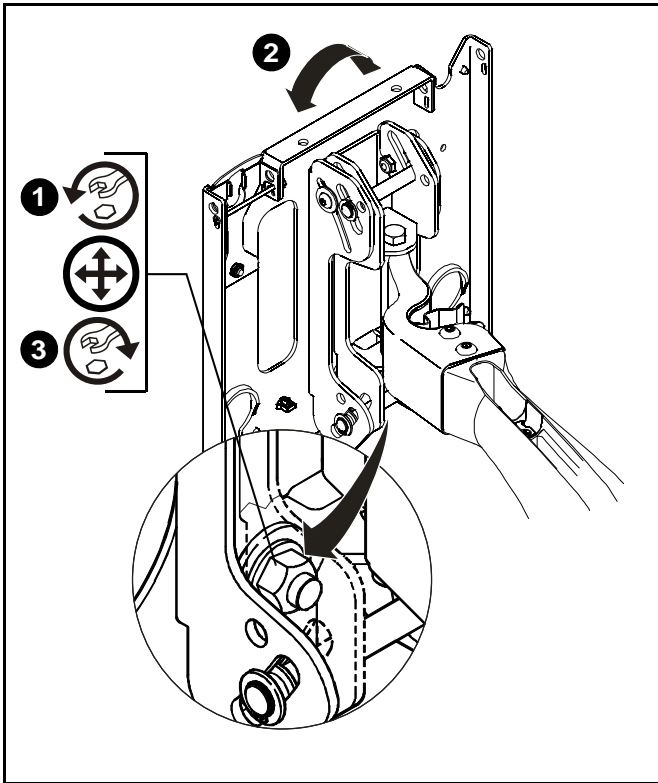

Figure 12
1. Loosen the roll tension adjustment nut located on the back side of the faceplate assembly. (See Figure 12)
3. Tighten roll tension adjustment nut. (See Figure 12)